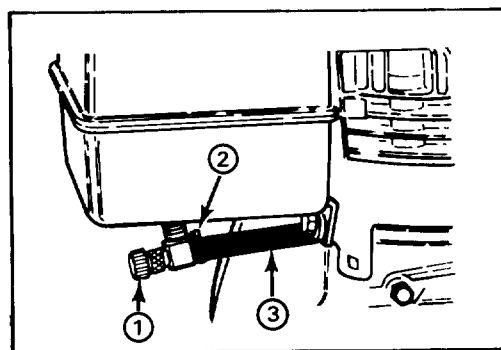

Figure 18
1. Close fuel shut off valve located under engine (Fig. 18).
3. Loosen hose clamps securing fuel line to valve and slide line off valve (Fig. 18).